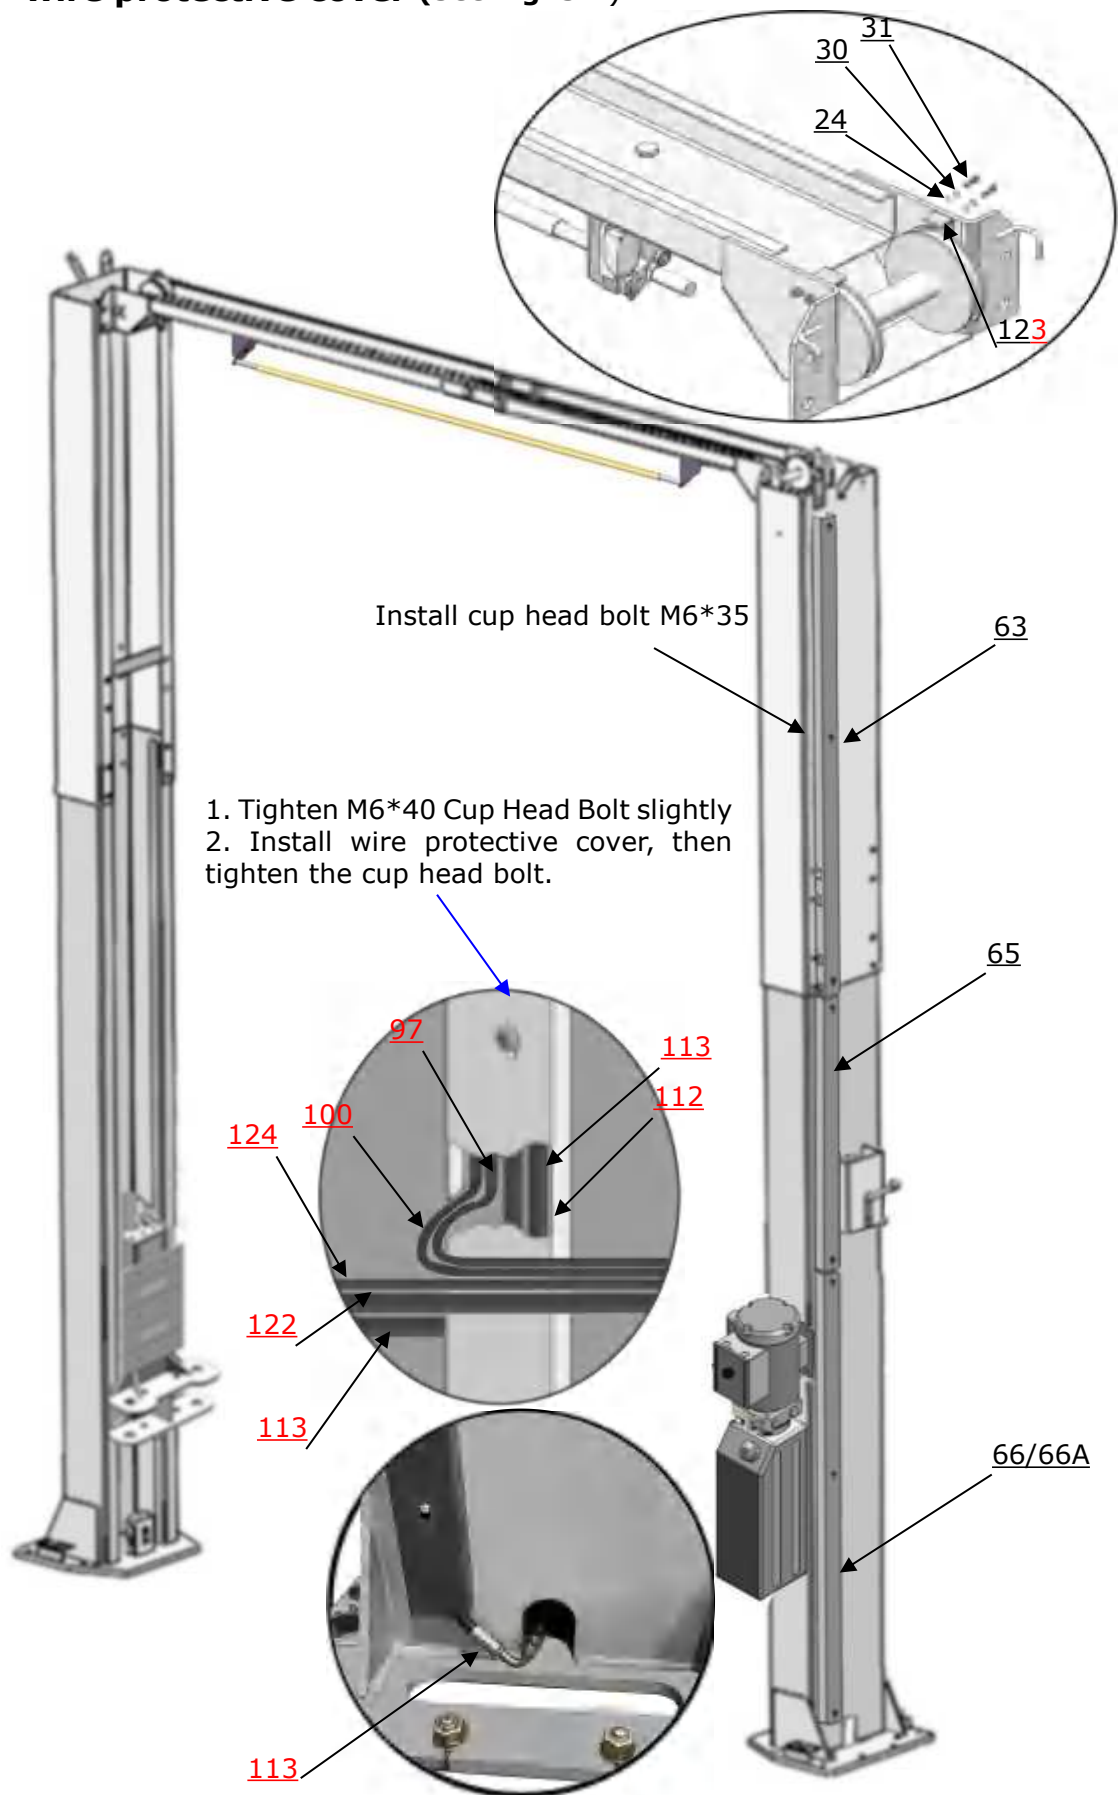

Fig. 34
N. Install wire protective cover (See Fig. 34.)